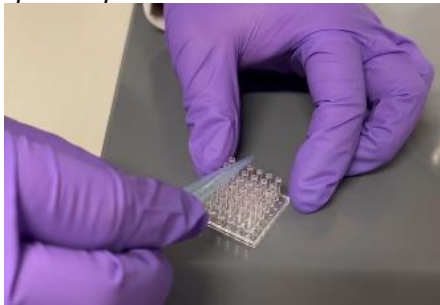

Figure 3. Scrapping excess Matrigel off the pillars using the 1 mL pipette tip.
14. After loading Matrigel on all pillars, scrape excess Matrigel off the pillars by sliding the 1 mL pipette tip in a horizontal position on all pillars (Fig. 3).